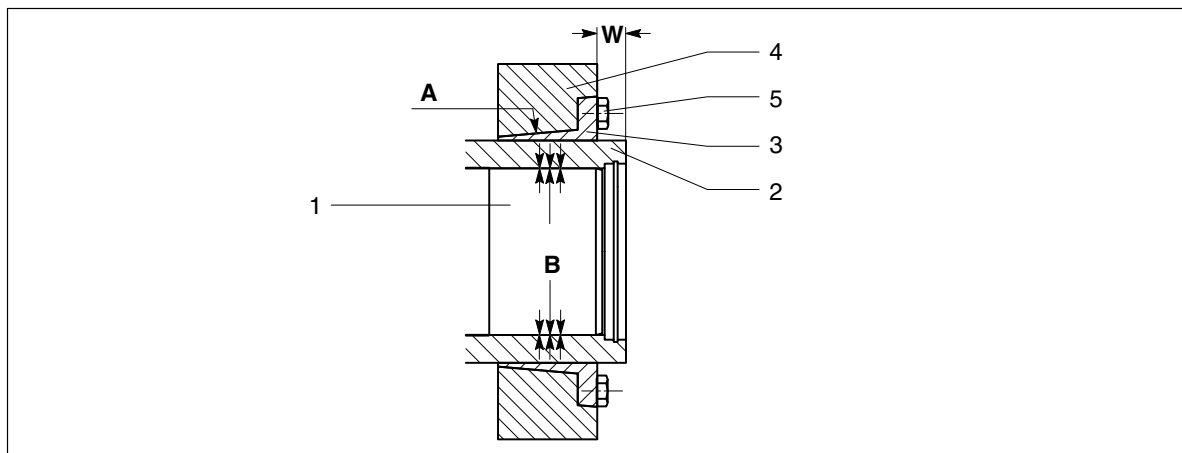

Fig. 56: Fitting the shrink disk
- The conical surfaces of the inner and outer rings (3 and 4, see figure 56) must be free of grease and oil.
- A thin layer of grease must be applied evenly to the conical surfaces of the inner and outer rings (3 and 4, see figure 56).
- Provide the tensioning bolts (5, see figure 56) on the contact surface and on the thread with lubricant.